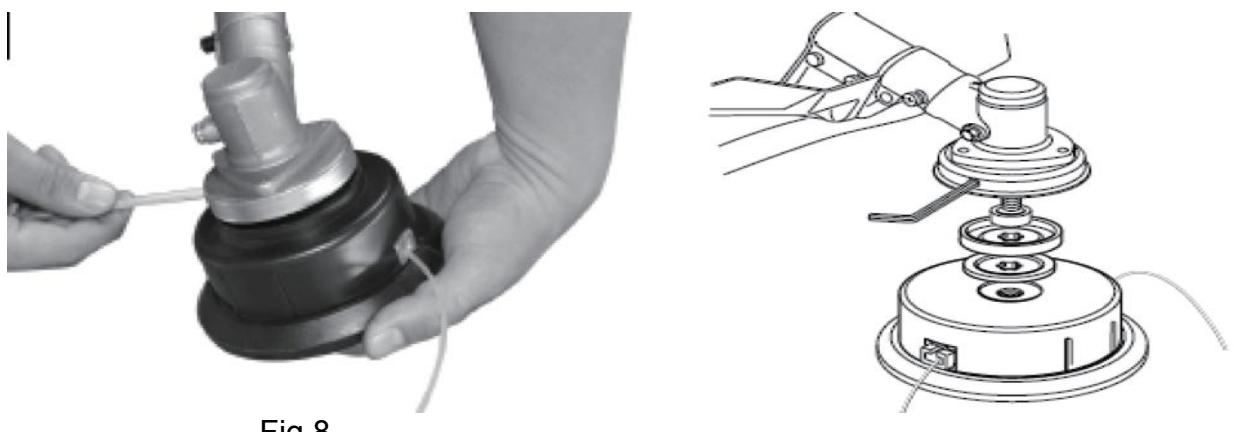

Fig.8
**Release the Nylon cutting head.(Fig.8)**